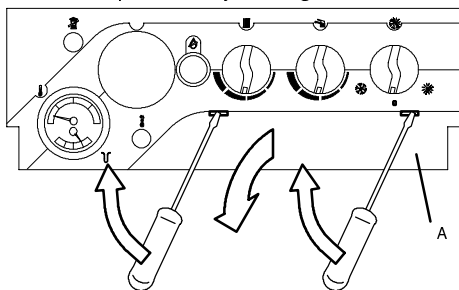

fig. 4.9
Insert a small flat-bladed screwdriver into the two slots indicated in fig. 4.9.
- 4 Insert a small flat-bladed screwdriver into the two slots indicated in fig. 4.9. Lever upwards **gently** with the screwdriver so as to unfasten panel "A" by rotating it downwards.